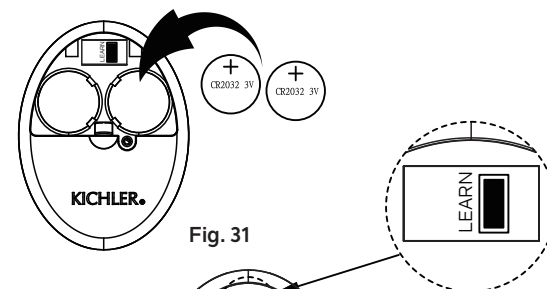

Fig. 31
Step 2. Install two 3V CR2032 batteries (included) with the + side facing up. (Fig. 31)